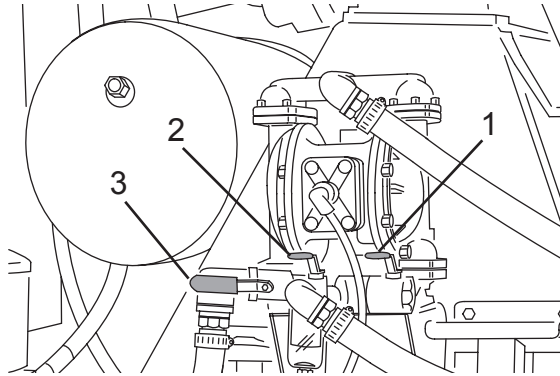

Figure 104
2. Close the purge valve (Figure 104, Item 1) at the pump inlet.
3. Open the main tank ball valve (Figure 104, Item 2) or chemical tank ball valve (Figure 104, Item 3) (if equipped) for the desired tank/water source.